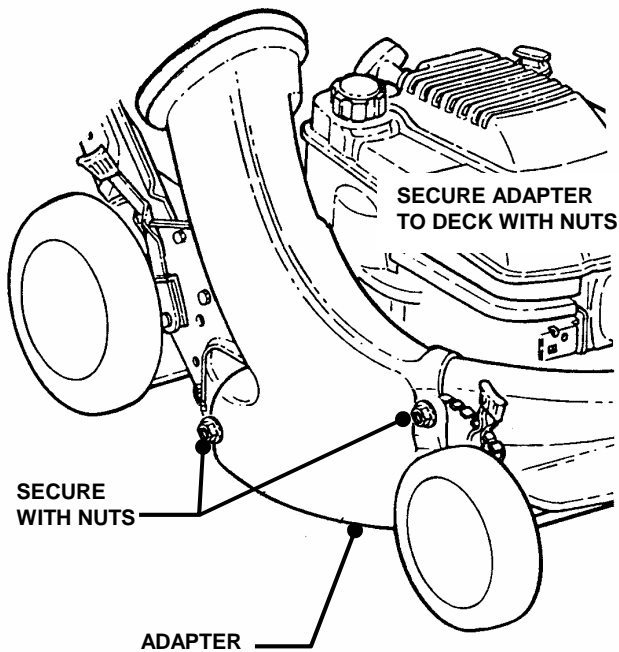

FIGURE 2.8
STEP 1: Install the grass bag adapter and secure to the side and top of the deck with the two nuts provided on the machine. Slot in front edge of adapter must be under nut located on top of deck. See Figure 2.8.